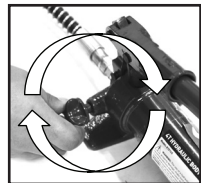

Fig.7
3. Close the Release Valve (9) clockwise until tight (DO NOT over-tighten) (Fig 7).
4. If the Ram (4) does not feel like it is operating correctly, repeat the above process until all air has been purged from the system. If the problem continues contact Kincrome Customer Service.